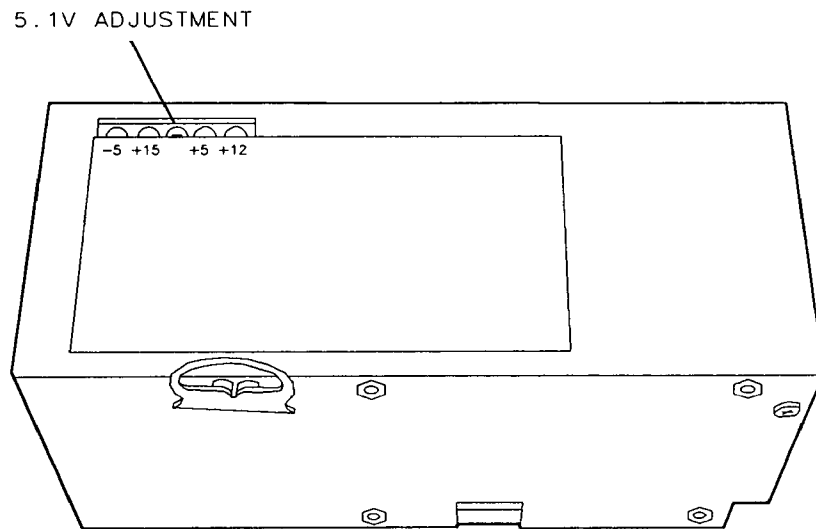

Figure 2-2. Power Supply Adjustment Location
3. Turn the analyzer **LINE** switch to ON. Adjust the +5.1 V adjustment (earlier units are labeled +5.2 V), for a voltage reading of $+5.1 \text{ V} \pm 0.05 \text{ V}$ (see Figure 2-2).